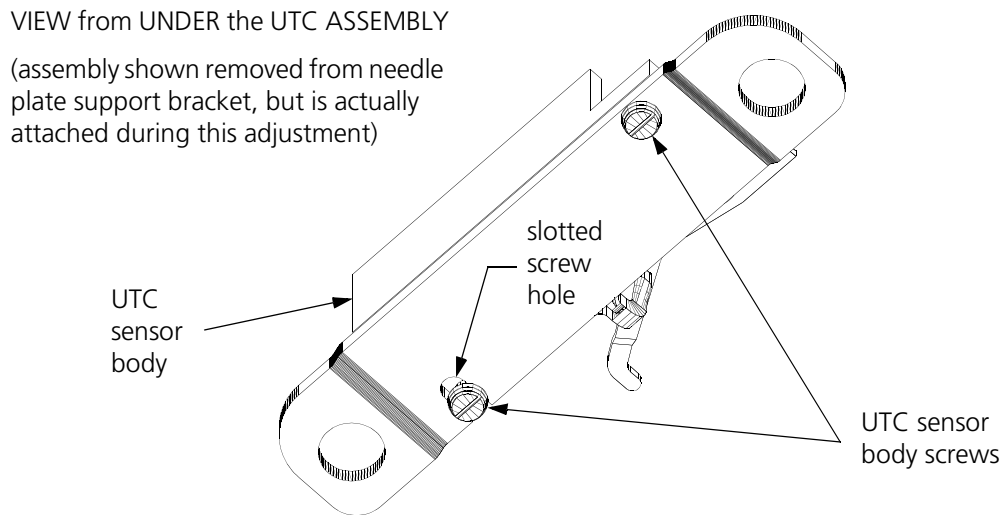

Figure 4-6
24. Slightly loosen the two small screws on the underside of the UTC assembly shown in Figure 4-6.